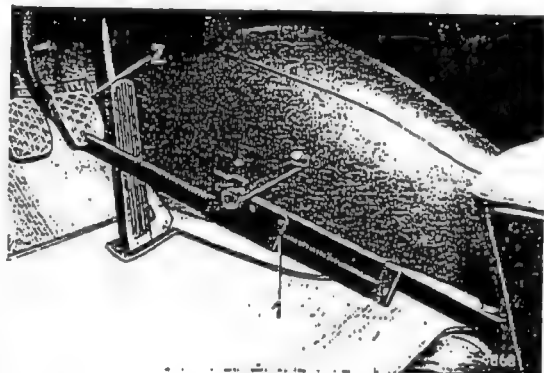

Fig. 42-21/13
3. Use the pedal support (1) in order to depress the brake pedal (2) as far as possible to produce the maximum line pressure which should be between 50 and 100 atm. and then fix the brake pedal in this position (Fig. 42-21/13).